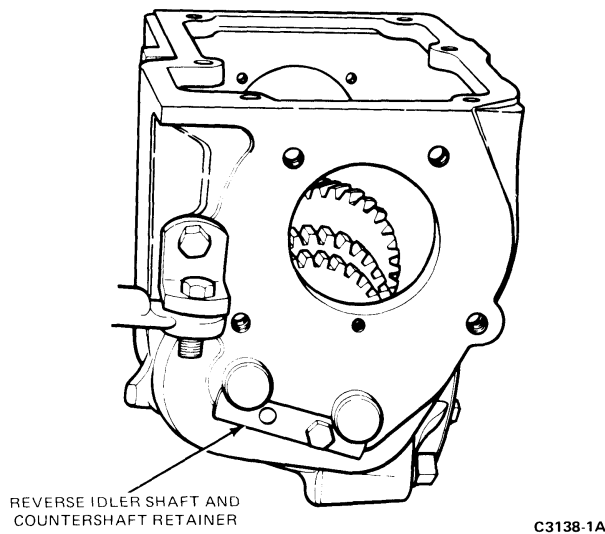

FIG. 11 Reverse Idler Gear Shaft and Countershaft Retainer
13. Remove the reverse idler gear shaft and the countershaft retainer from the end of the transmission case (Fig. 11).